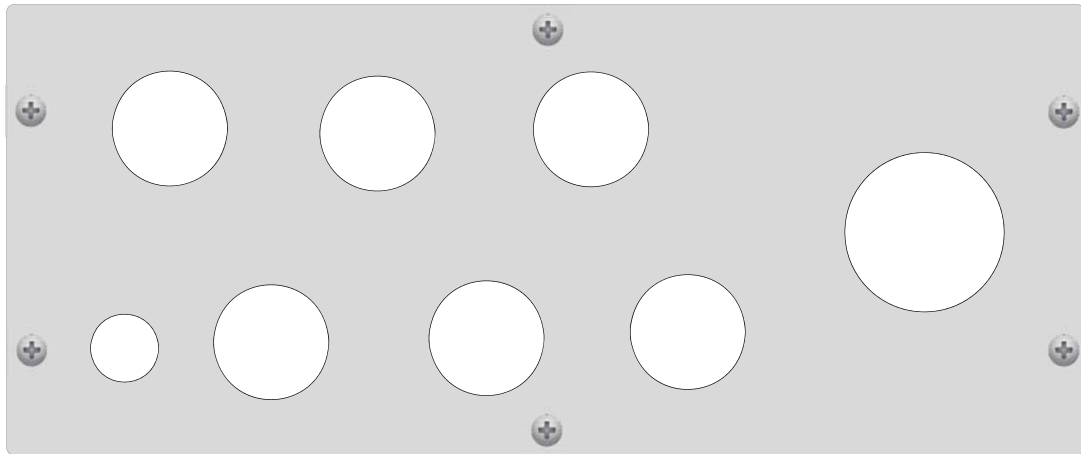

Figure 3.7 – Conduit plate and example strain relief locations, for input PV Source Circuit conductors
1. Remove the Conduit Plate (Figure 3.7), located on the bottom of the attachable combiner.